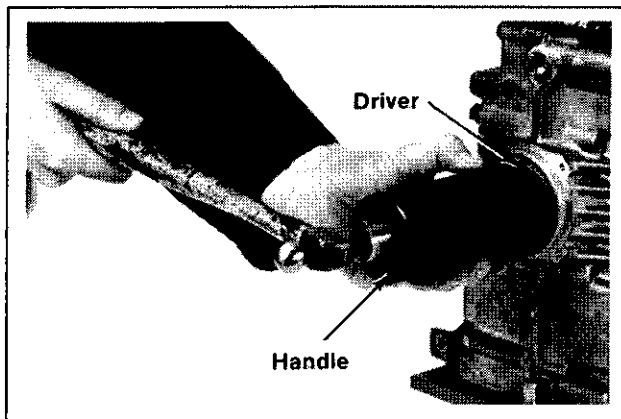

Figure 11-24. Installing Oil Seal Using Driver.
2. Using the #11795 handle and appropriate seal driver, install the front oil seal to a depth of $\frac{1}{32}$ " ($+\frac{3}{64}$ "; $-\frac{1}{64}$ "). Refer to Figure 11-24.
6. Using the #11795 handle and appropriate seal driver, install the rear oil seal to a depth of 5/32" (+ 3/64"; -1/64"). Refer to Figure 11-24.